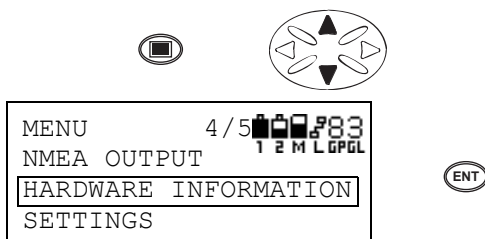

Figure 3-130. Initiate Menu Mode, Scroll to Hardware Information, Press Enter
1. Press the **menu** key to enter the menu mode. Press the **up/down cursor key** to select **HARDWARE INFORMATION** and press **ENT** (Figure 3-130).